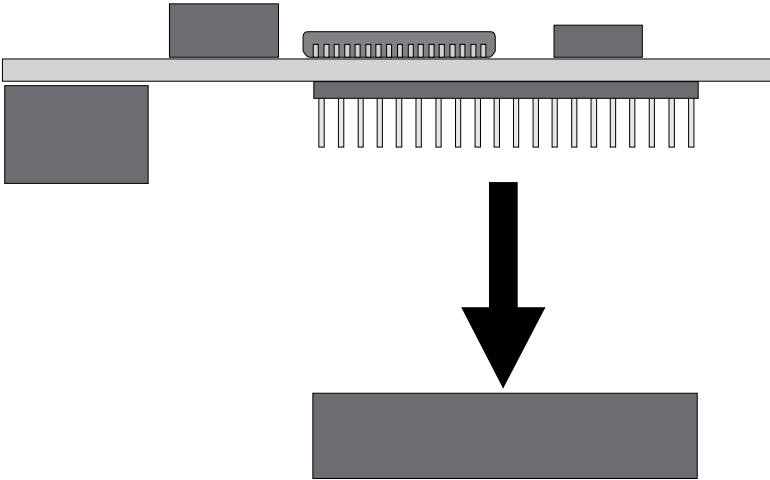

Figure 3-14 Installing the Ethernet Module
5. Insert the module with the bottom edge level to the connectors (Figure 3-14). **Never insert the module at an angle!**